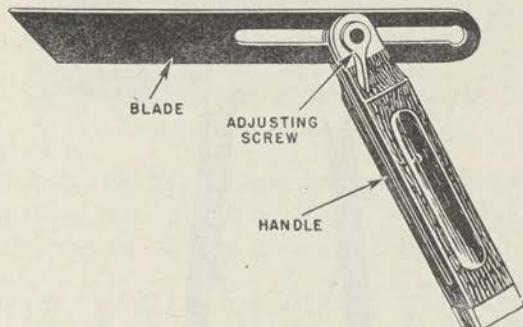

FIGURE 15.—Bevel.
f. Bevel (fig. 15).—Similar in construction to the try square. The adjustable blade, however, can be set at any angle with the handle, but it is not graduated. Use the bevel instead of the try square or combination square for laying out angles other than 90° and 45° .